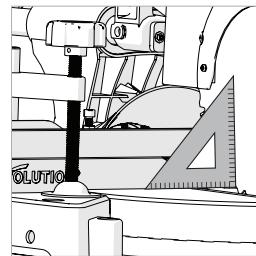

Fig. 13
- Place the Set Square on the table with one short edge against the table and the other short edge against the blade (avoiding the TCT tips). (**Fig. 13**)